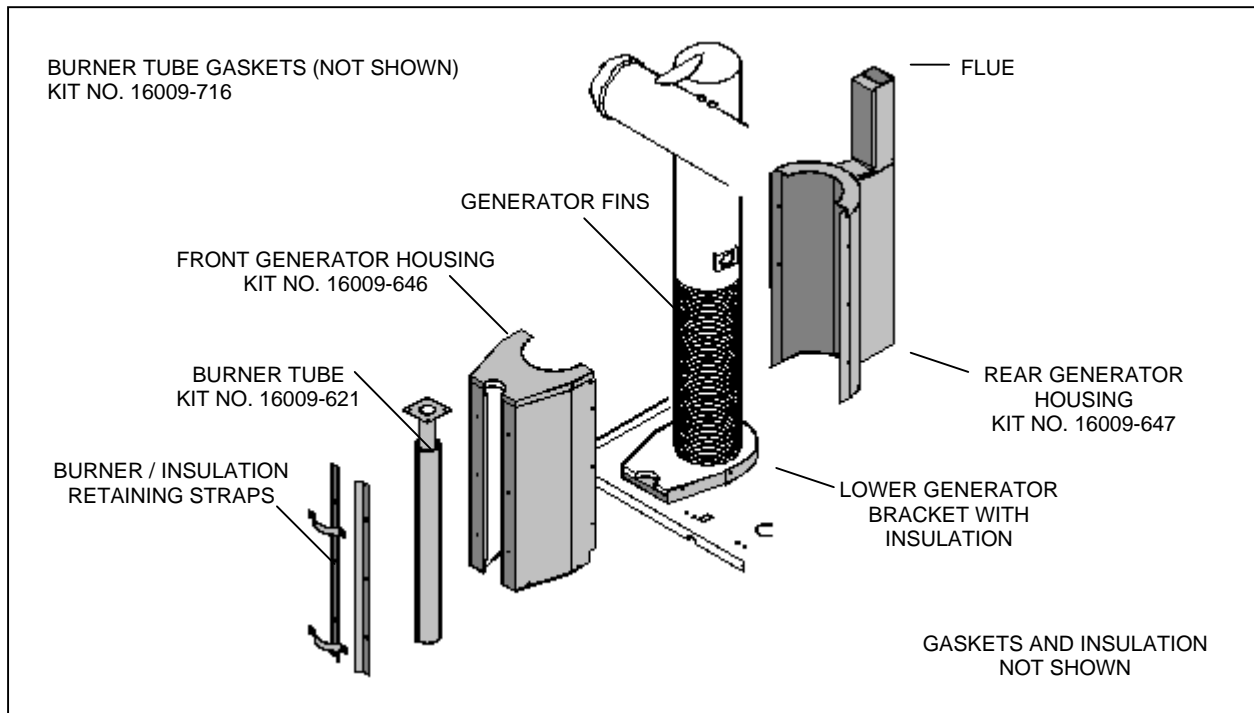

Figure 32 – GENERATOR ASSEMBLY
10. Remove screws holding burner and insulation retaining straps (see Figure 32).
11. Pry bottom of burner tube out to clear bottom of generator housing. Pull burner down and out to remove from front generator housing (see Figure 32).
12. Remove sheet metal screws holding front and rear generator housings together (see Figure 32).
5. Look down the flue opening at the back of the generator housing and clear any debris that may be obstructing the opening (see Figure 32).